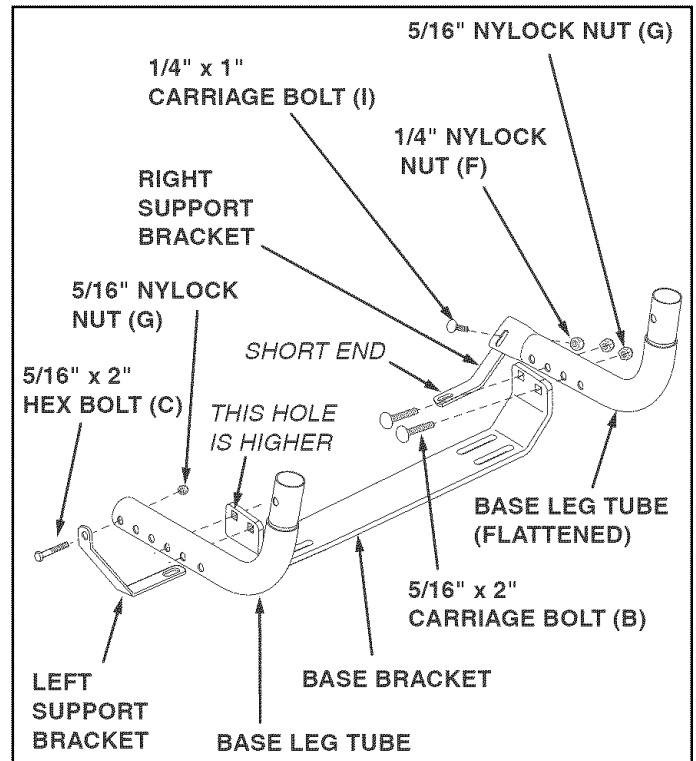

FIGURE 2
STEP 2: (SEE FIGURE 2)
- Attach the right side of the base bracket to the fourth and fifth holes in the flattened base leg tube using two 5/16" x 2" carriage bolts (B) and 5/16" nylock nuts (G). **Make only finger tight.**
- Attach the left side of the base bracket to the fourth and fifth holes in one of the base leg tubes using two 5/16" x 2" carriage bolts (B) and 5/16" nylock nuts (G). **Make only finger tight.**
- Attach the long end of the right support bracket to the flattened end of the right base leg tube using a 1/4" x 1" carriage bolt (I) and 1/4" nylock nut (F). **Make only finger tight.**
- Attach the left support bracket to the left base leg tube using one 5/16" x 2" hex bolt (C) and 5/16" nylock nut (G). **Make only finger tight.**